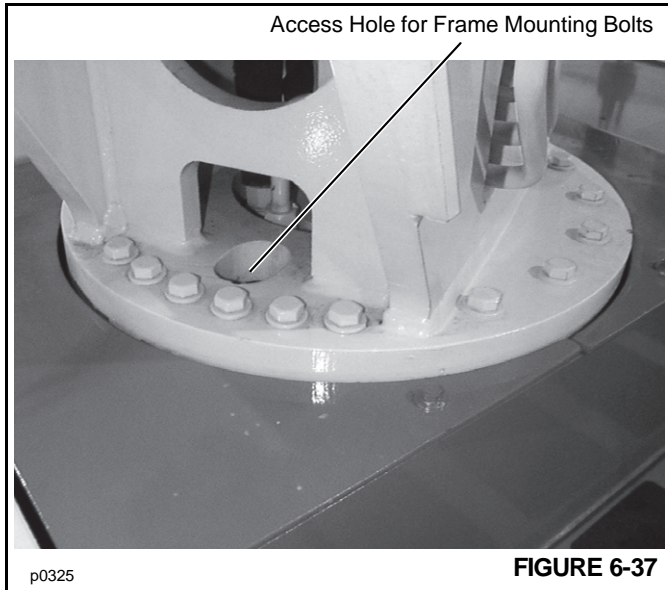

FIGURE 6-37
Torque the 3/4" bearing to frame mounting bolts (24) to 384 Nm (282 lb-ft). To gain access to the bolts, rotate the mast until a bolt is visible in the access hole in the mast mounting plate (Figure 6-37). Rotate the mast as needed and tighten each bolt in crisscross pattern (Figure 6-36) until all bolts are checked.